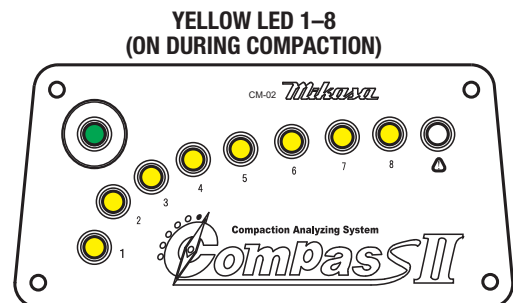

Figure 65. Sensor Panel Display (Compaction Progression)
- As compaction progresses, the rest of the yellow LEDs (2 through 8) will turn on. See Figure 65.